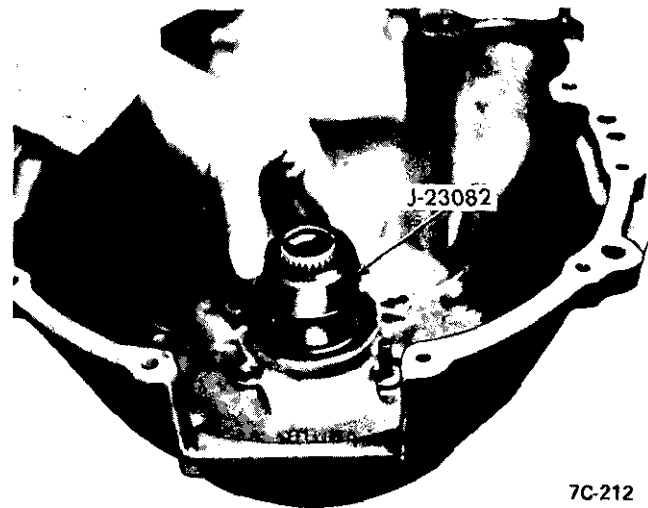

Figure 7C-2 16
4. Use converter housing to oil pump aligning tool J-23082 to align converter housing to pump. See Figure 7C-216. Tool should bottom on oil pump gear.